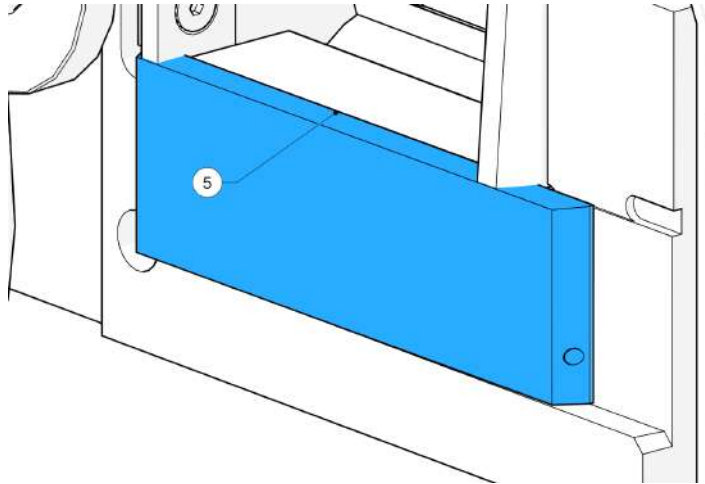

Figure 65 - Anvil tight to the bedplate
14. Insert the anvil through the side of the chamber, making sure that the anvil stays tight to the bed plate (5, Figure 65).